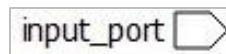
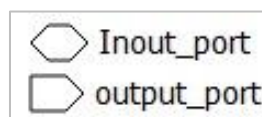

Figure 2.117. Input Port
Figure 2.118. Output Port and Inout Port
- f. Click **OK**. The port appears. Figure 2.117 shows an input port, port name of which is on the left. Figure 2.118 shows an output port and an inout port, port names of which are on the right.